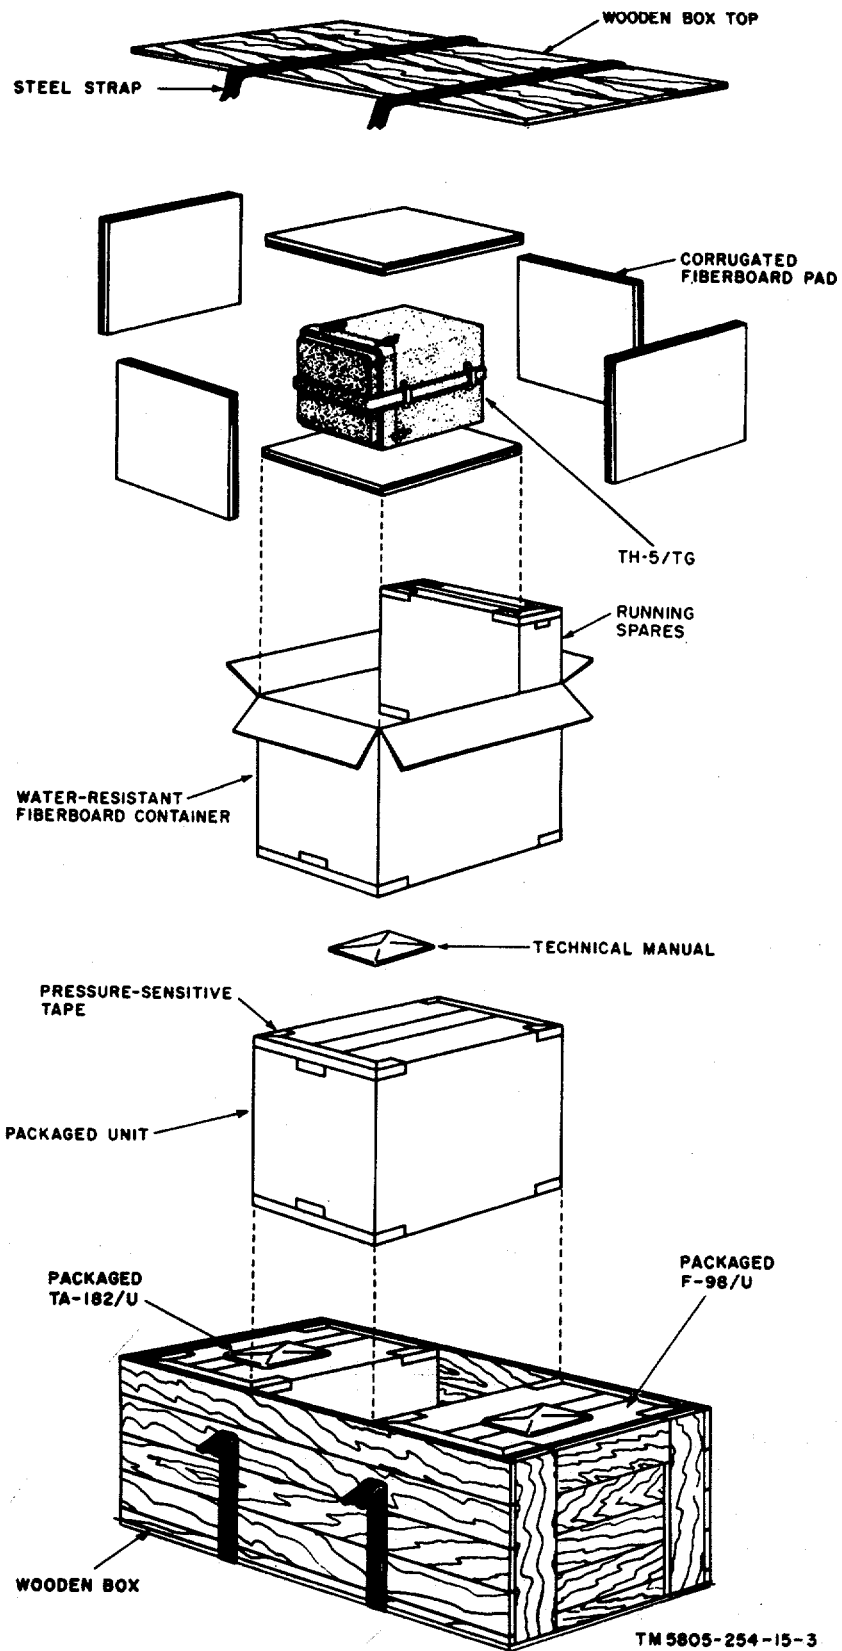

Figure 6. Packing diagram, Terminal, Telegraph-Telephone AN/TCC-14.
b. Removing Contents (fig. 6). When the equipment is received, unpack it in a sheltered area as close as possible to the site at which it will be used. Perform the procedures given in (1) through (8) below for export packed equipment and in (2) through (8) below for domestic packed equipment.
- (1) Cut and fold back the steel straps.
- (2) Remove the nails from the top of the wooden box with a nailpuller and remove the wooden top.
- (3) Lift each water-resistant fiberboard container out of the wooden box, in turn, and remove the technical manuals.
- (4) Cut the pressure-sensitive tape around the top of each water-resistant fiberboard container and open the flaps.
- (5) Remove the flat corrugated fiberboard pads from the top and four sides of the equipment and lift the equipment out of the fiberboard container.
- (6) Remove the running spares from the fiberboard container.
- (7) Cut through three edges of one side of the running spares package.
- (8) Fold back the side of the running spares package and remove the contents.